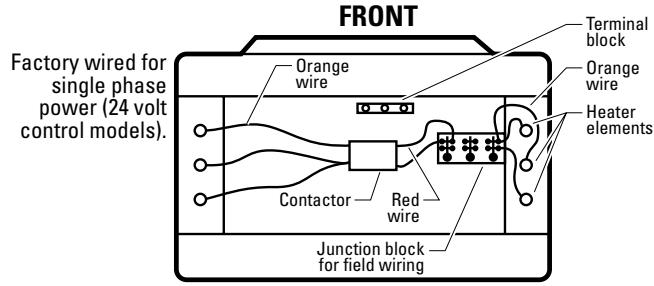

Figure 11. **BACK**
2. **Models with 24 Volt Control (see Figures 11 & 12)**